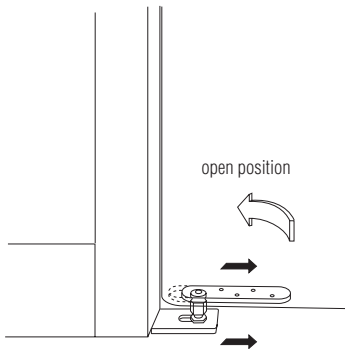

Figure 5
2. Moving the bottom door plate and the pivot approximately  $\frac{1}{4}$ " toward the center of the door will make the door swing open under its own weight (Figure 5).